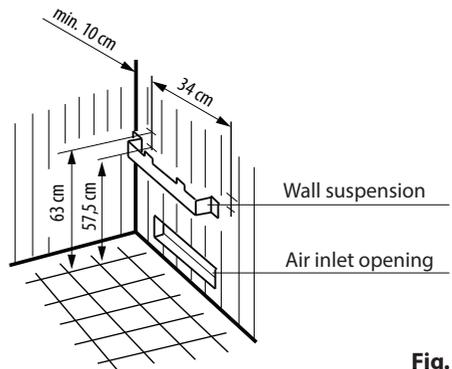

Fig. 2
1. Center wall mounting over the air intake vent as in Fig. 2 and bolt onto cabin wall with the particle board screws provided. In doing so, please make sure that the side (lateral) clearance between sauna heating unit and cabin wall is at least **4 cm**.